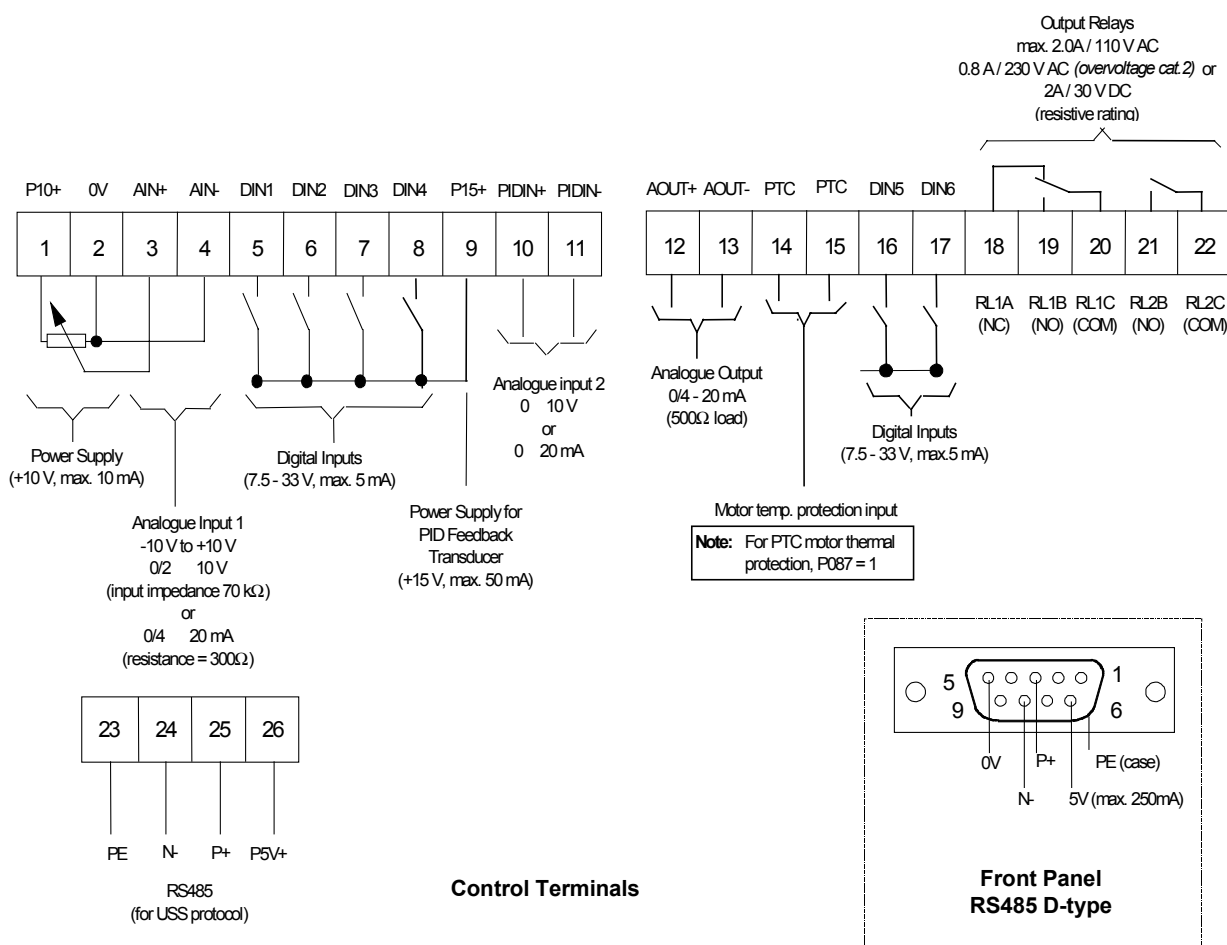

Figure 2.2.4: Control Connections - MICROMASTER Vector
A small bladed screwdriver, max. 3.5 mm will be required to operate the control terminal WAGO cable clamp connectors as shown in Figure 2.2.4.
Note: These connections have to be made with the inverter dismounted from the mounting surface. Care must be taken routing the leads through the moulded clips to prevent trapping and chafing when the unit is mounted and secured to the selected surface. Connect the control leads as shown in Figures 2.2.4 and 2.2.6.
15. Connect the control leads as shown in Figures 2.2.4 and 2.2.6.
11. Connect the control leads as shown in Figures 2.2.4 and 2.2.6